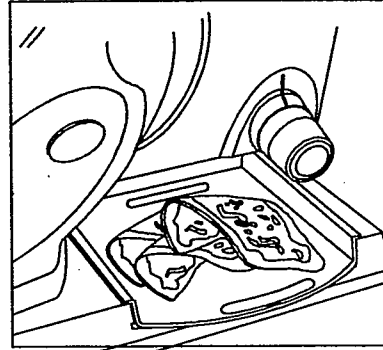

Figure 4
6. Slide the Food Tray off the Electronic Scale. Invert the Food Tray and place on top of the Electronic Scale to collect the food. Properly align the raised circles on the Scale with the recessed circles on the underside of the Food Tray. The curved end of the Food Tray should extend outward from the back of the scale. See Figure 4. The weight of the sliced food will be displayed on the control panel. You can use other containers to collect the sliced food, however, the Electronic Scale may not operate properly.